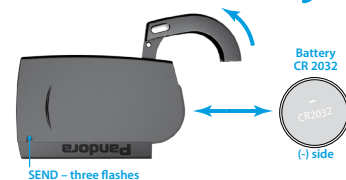

fig.2
- Slide the battery cover in the direction shown by the arrow (fig. 2);